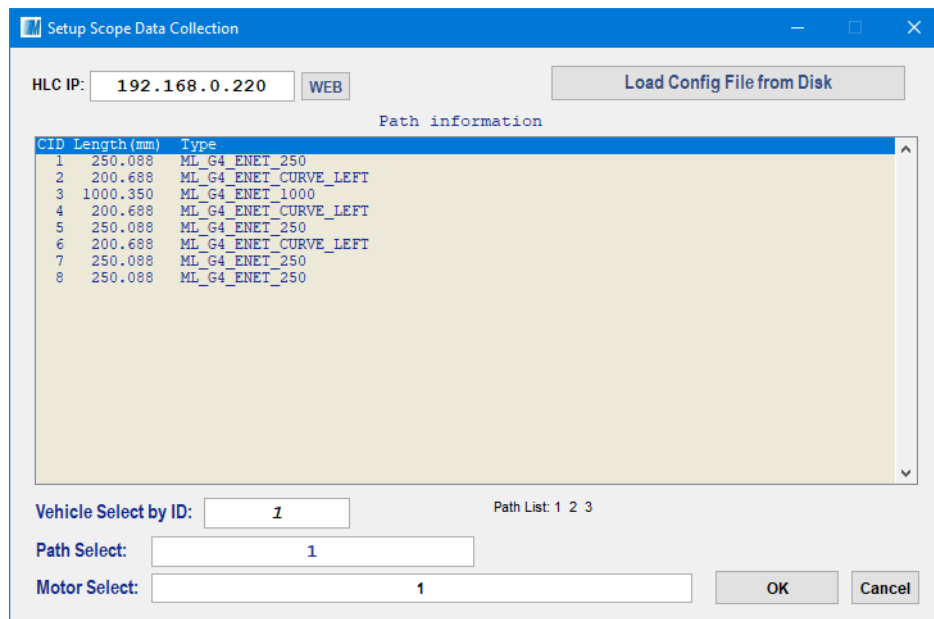

Figure 2-13: Setup Scope Data Collection Dialog Box, Multiple Motor Mode
*The **Setup Scope Data Collection** dialog box for multiple motors opens as shown in Figure 2-13.*